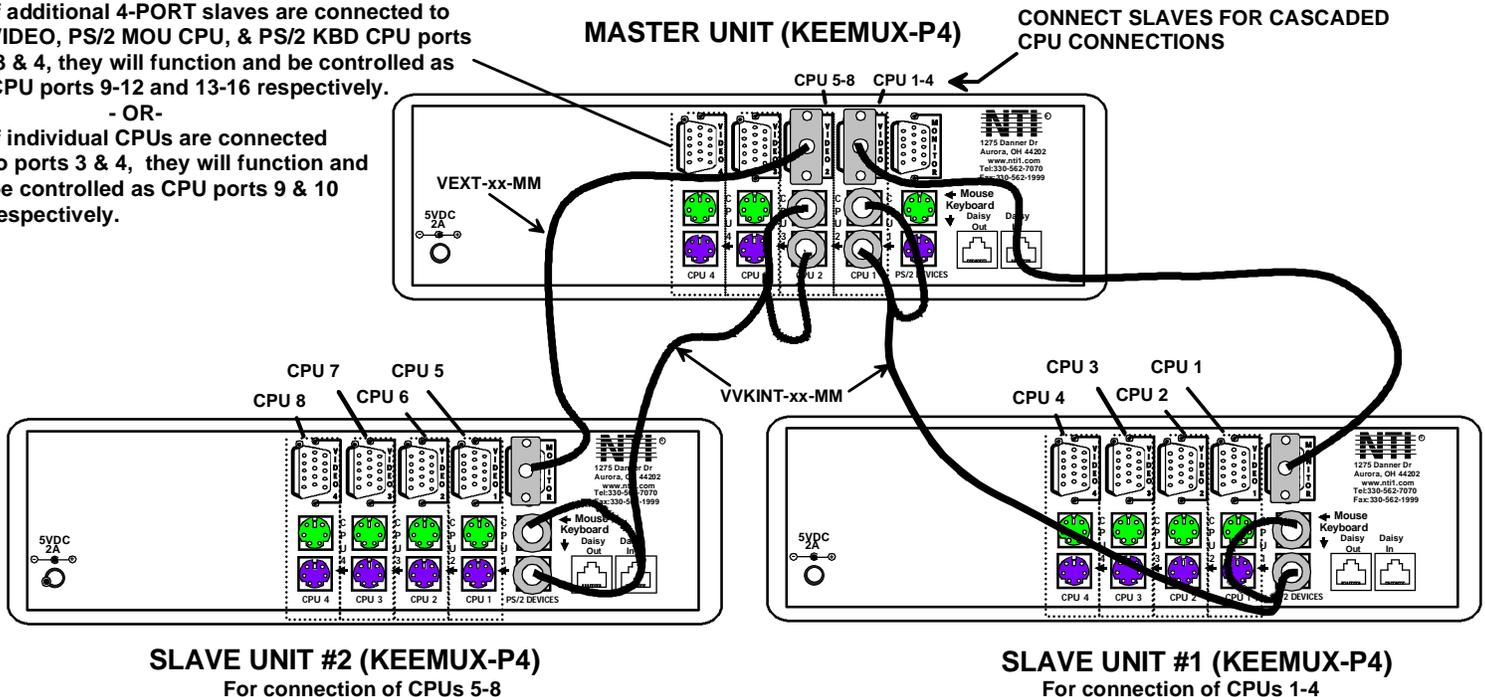

Figure 6- Cable connections for cascading
**FYI:** Port 1 of the master unit (with a 4-port slave unit connected to it) will function and be controlled as ports 1-4 (1-8 for an 8-port slave, 1-16 for a 16-port, etc.). Port 2 of the master unit (with a second 4-port slave unit connected) will function and be controlled as port numbers 5-8 (9-16 for an 8-port slave, 17-32 for a 16-port slave, etc.). See Fig. 6 on page 6.
- A connection to the CPUs from the keyboard would be achieved by typing the appropriate port number. (See Fig. 6 on page 6.)
- When cascading, if not all of the ports are used on each slave attached to your system, **THE PORT NUMBER(S) ASSOCIATED WITH THE UNUSED PORT(S) WILL NOT BE ACCESSIBLE** when trying to control the switches connected to the system. (I.e. if ports 7 and 8 are not used on the first slave and an attempt is made to connect to ports 7 or 8 while in Command Mode, the KEEMUX will ignore the attempt. )